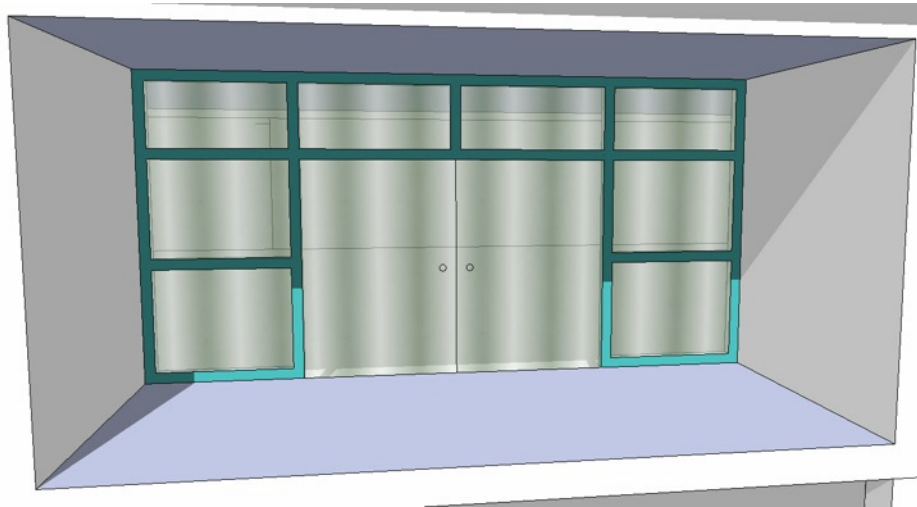

Figure 64. Windows and doors created in recess of balcony
- On the rear face of the balcony recess create a window and doors as shown in Figure 64 using your own dimensions.
- On each of the window faces add a suitable material to create the impression of a semi-opaque glass as shown in Figure 64.
- Add two circles of 25mm radius to form door handles as shown in Figure 64.